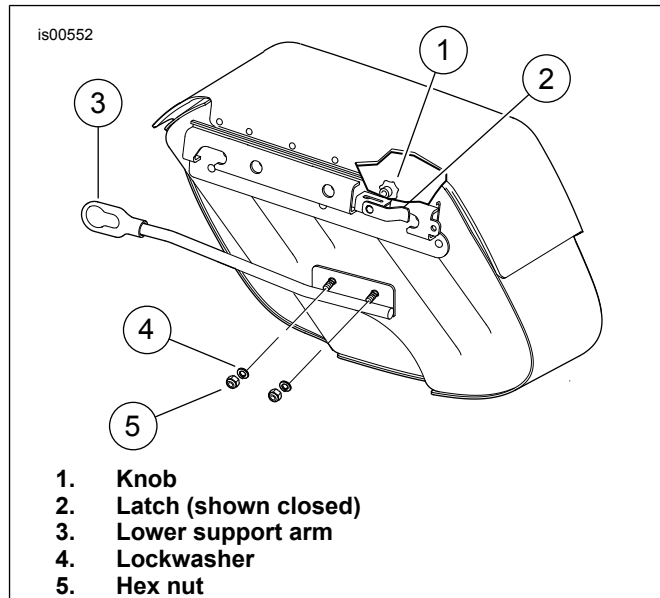

Figure 4. Rear View of Saddlebag
- See Figure 4. Pull on the knob (1) and rotate it towards the rear of the bag. The latch (2) on the back of the bag should swing into the open position.
- See Figure 4. If adjusting the shock spacer in Step 6 causes the bag or lower support arm to be lifted or pushed down, loosen the lock nuts holding the lower support arm to the saddlebag and adjust the arm forward or back as needed. If loosened, tighten the support arms to 7–10 N·m (60–90 in-lbs).